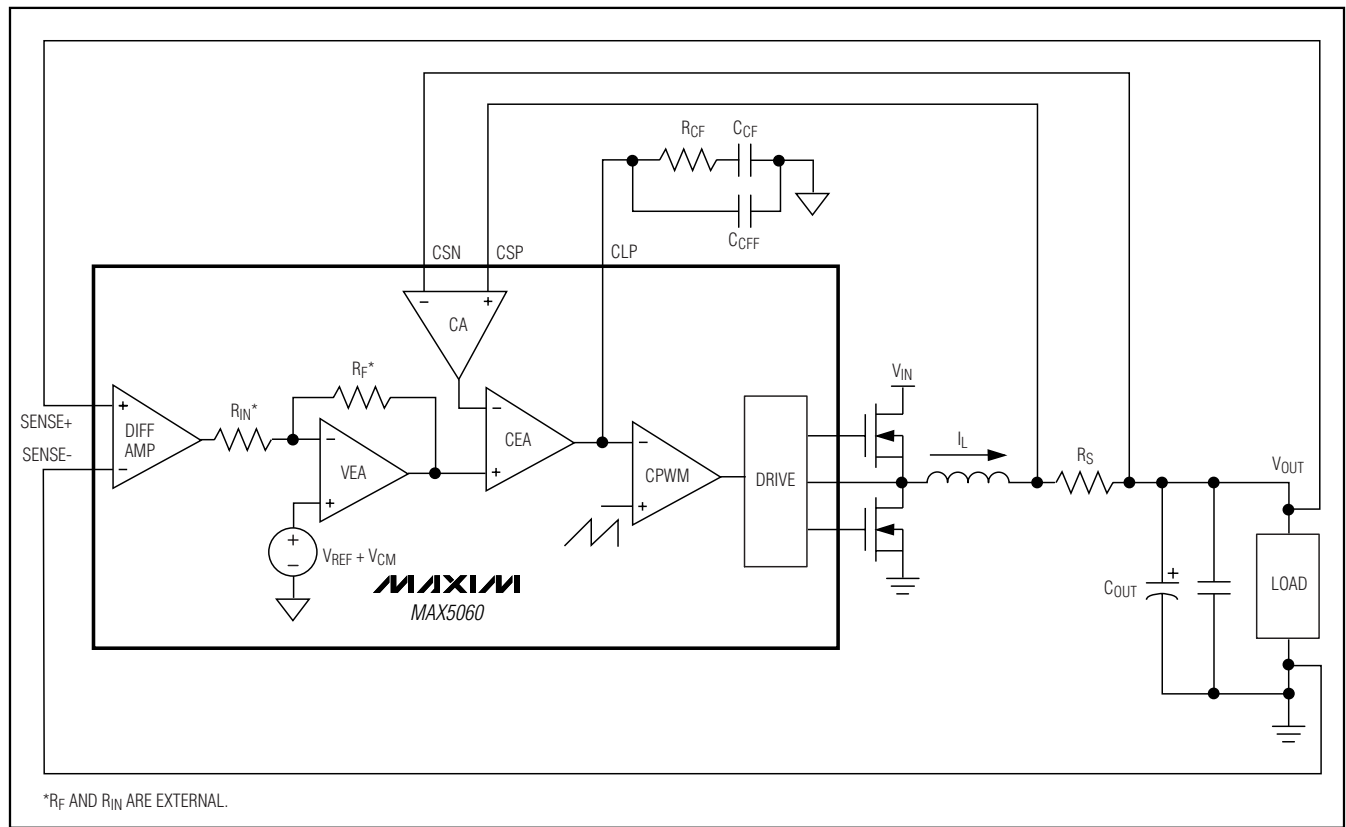

Figure 5. MAX5060 Control Loop
The MAX5060/MAX5061 use an average-current-mode control scheme to regulate the output voltage (Figure 5). The main control loop consists of an inner current loop and an outer voltage loop. The inner loop controls the output current (I_{PHASE}), while the outer loop controls the output voltage. The inner current loop absorbs the inductor pole reducing the order of the outer voltage loop to that of a single-pole system.
The peak-current comparator provides a path for fast cycle-by-cycle current limit during extreme fault conditions such as an output inductor malfunction (Figure 5). Note the average current-limit threshold of 26.9mV still limits the output current during short-circuit conditions. To prevent inductor saturation, select an output inductor with a saturation current specification greater than the average current limit. Proper inductor selection ensures that only the extreme conditions trip peak-current comparator, such as a broken output inductor. The 60mV threshold for triggering the peak-current limit is twice the full-scale average current-limit voltage threshold. The peak-current comparator has only a 260ns delay.
The MAX5060/MAX5061 has a transconductance current-error amplifier (CEA) with a typical g_m of 550 μ S and 320 μ A output sink- and source-current capability. The current-error amplifier output CLP, serves as the inverting input to the PWM comparator. CLP is externally accessible to provide frequency compensation for the inner current loops (Figure 5). Compensate (CEA) so the inductor current down slope, which becomes the up slope to the inverting input of the PWM comparator, is less than the slope of the internally generated voltage ramp (see the *Compensation* section).
The PWM comparator (CPWM) sets the duty cycle for each cycle by comparing the output of the current-error amplifier to a 2V_{P-P} ramp. At the start of each clock cycle, an R-S flip-flop resets and the high-side driver (DH) turns on. The comparator sets the flip-flop as soon as the ramp voltage exceeds the CLP voltage, thus terminating the ON cycle (Figure 5).
The differential amplifier (DIFF AMP) facilitates output-voltage remote sensing at the load (Figure 5). It provides true-differential output voltage sensing while rejecting the common-mode voltage errors due to high-current ground paths. Sensing the output voltage
Set the voltage-positioning window (ΔV_{OUT}) using the resistive feedback of the voltage-error amplifier (VEA). Use the following equations to calculate the voltage-positioning window (Figure 5):